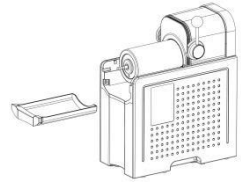

Fig.1
2. Install the condensation catch under the evaporator by sliding it into the rail grooves (Fig.1).